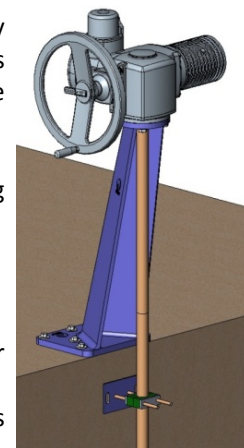

fig. 11
- Leaning Column to order (fig. 11).